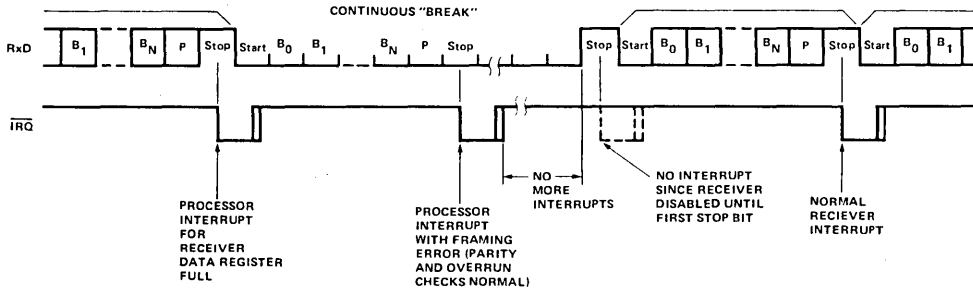

Figure 4-13. RECEIVE CONTINUOUS "BREAK"
4.1.13 Receive Continuous "BREAK" (Figure 4-13)